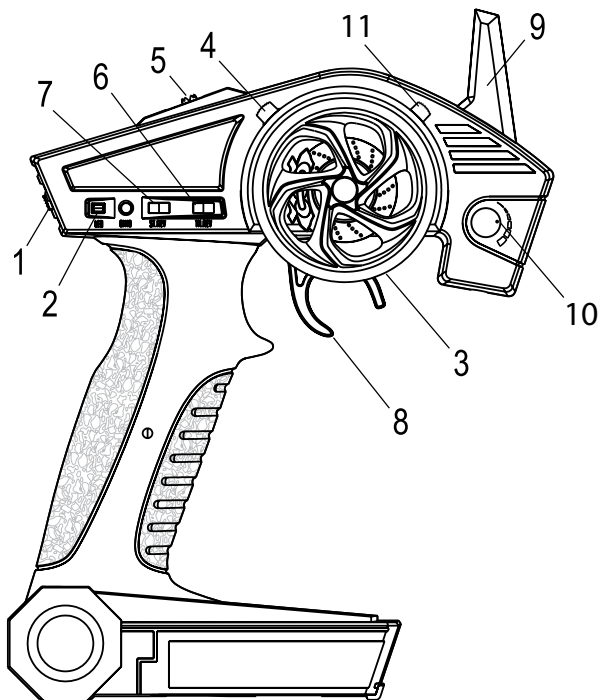

Figure 2
The remote control antenna (9) is shown in figure 2. The antenna should not point directly at the boat or at the ground, as this reduces the transmission range.